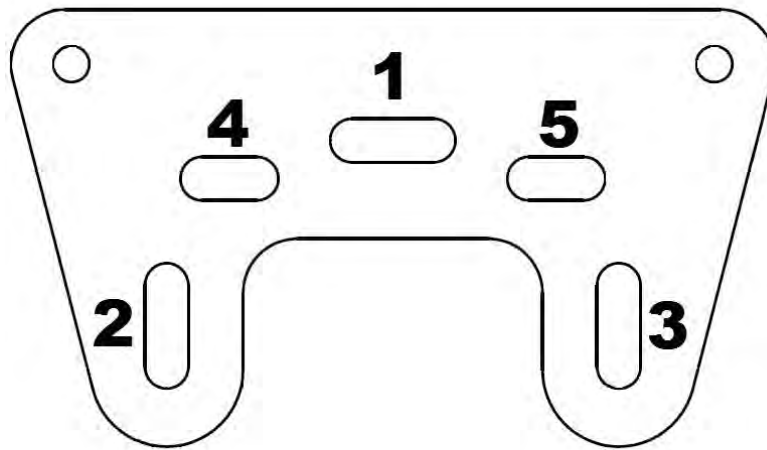

Figure 4
5. Using a $\varnothing 10$ drilling bit, drill rawlplug holes in the marked points. Holes shall be drilled in specific sequence, starting from number 1 (as marked on the template block) (**Figure 4**). After drilling whole number 1 move to drilling holes 2 and 3. Then drill holes number 4 and 5. Repeat the sequence on the other side of the slot.